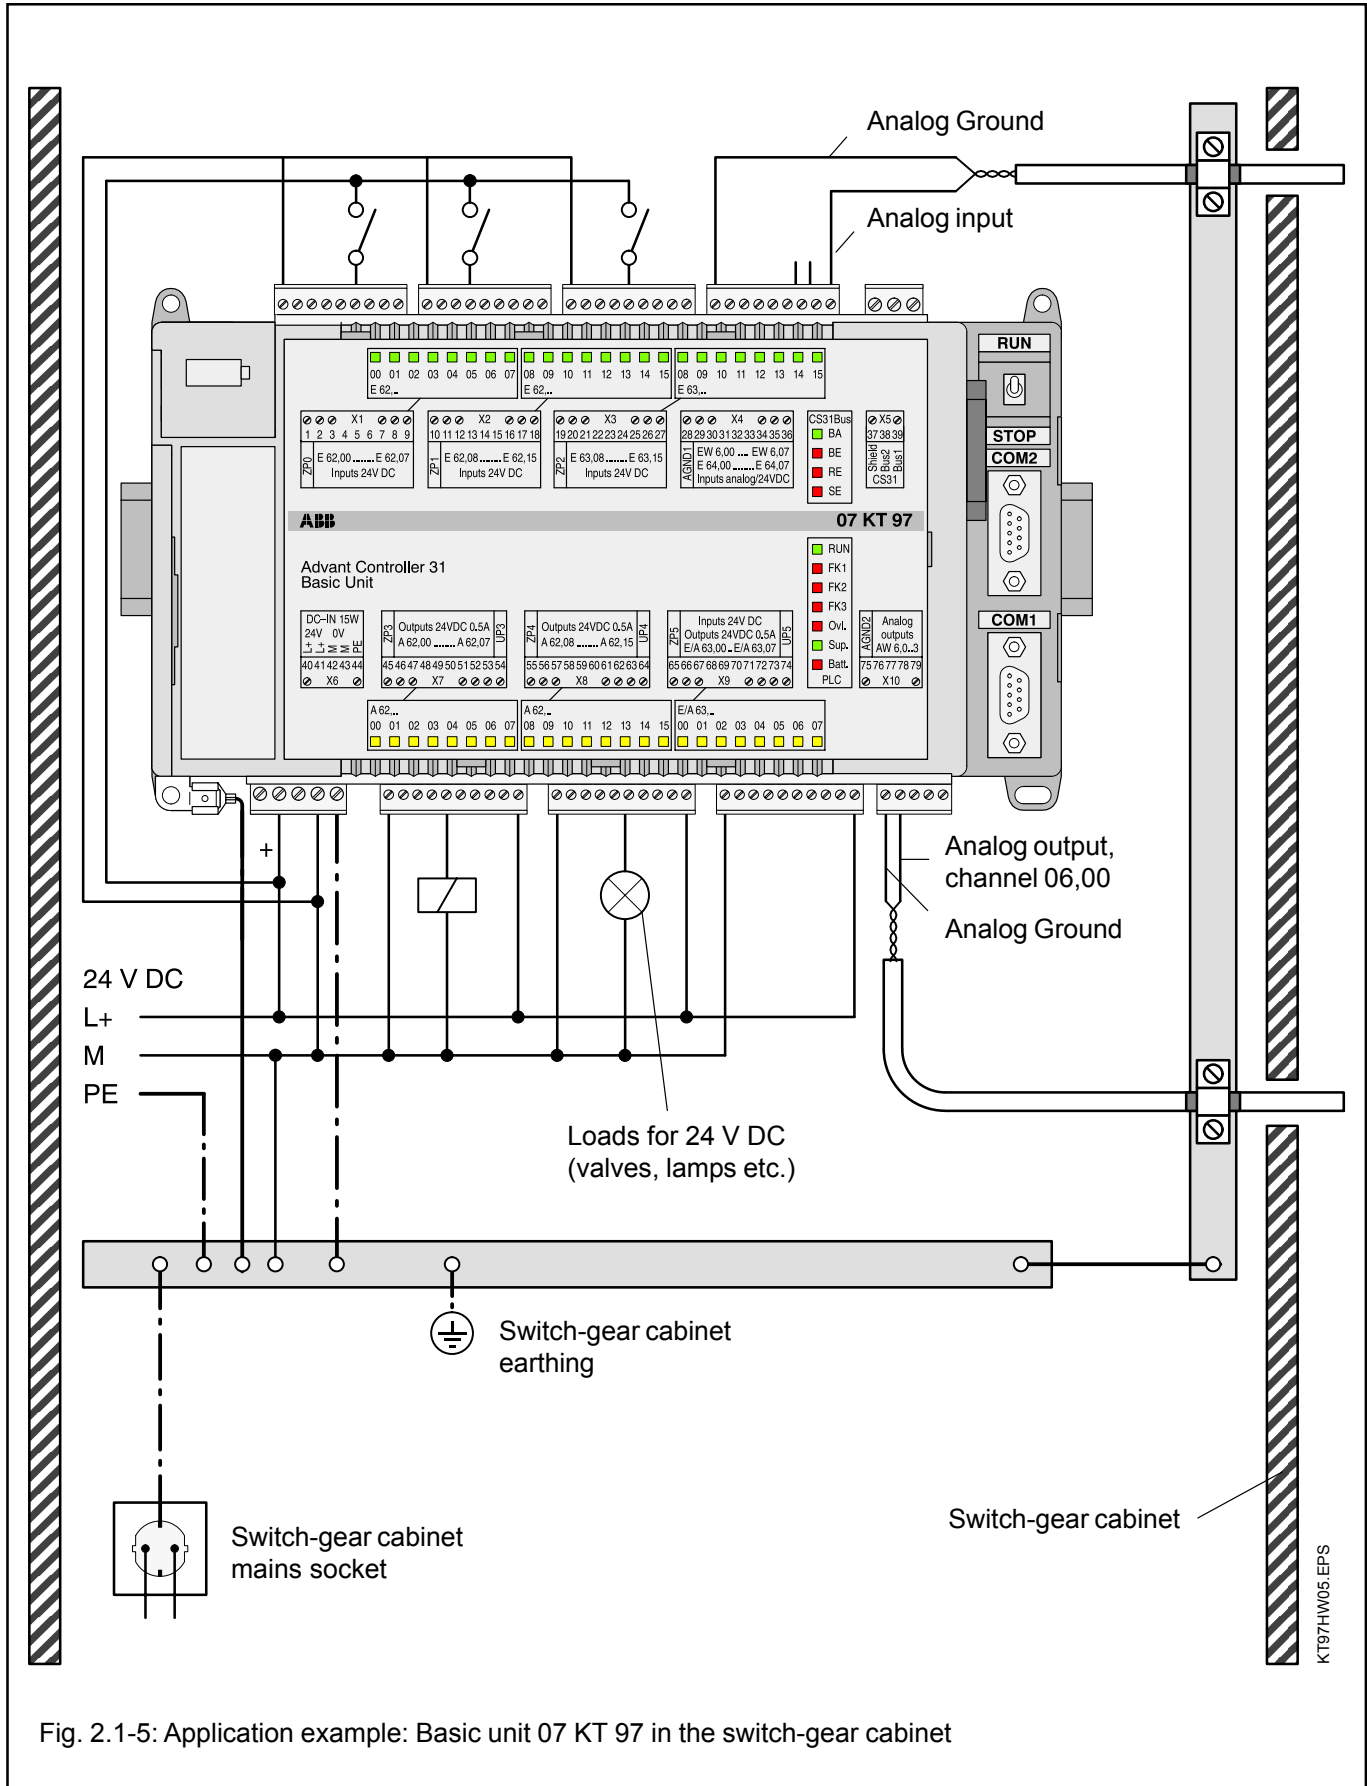

Fig. 2.1-5: Application example: Basic unit 07 KT 97 in the switch-gear cabinet
- Analog signals are conducted in shielded cables (see Fig. 2.1-5).